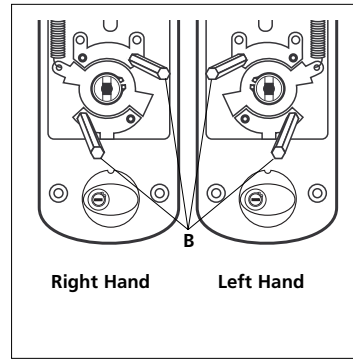

Figure 8
- 4) Position the aligning studs (B) on the outside housing based on the handing of the lock (see Figure 8). Screw them into place firmly.
- 5) Rotate the cylinder connecting bar on the outside housing to a horizontal position (see Figure 8).